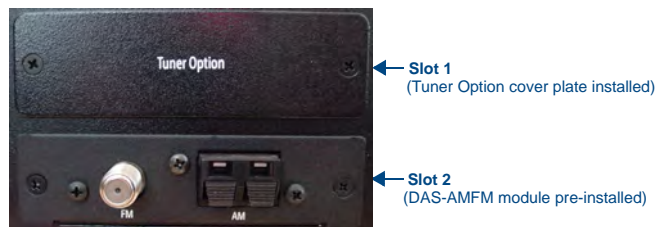

FIG. 10 Rear Panel - Tuner Slots 1 and 2
2. With the back of the unit facing you, remove the screws from the Tuner Option cover plate at the right top corner of the rear panel (FIG. 10) and remove the plate. Retain the screws, as they will be used to install the tuner module.